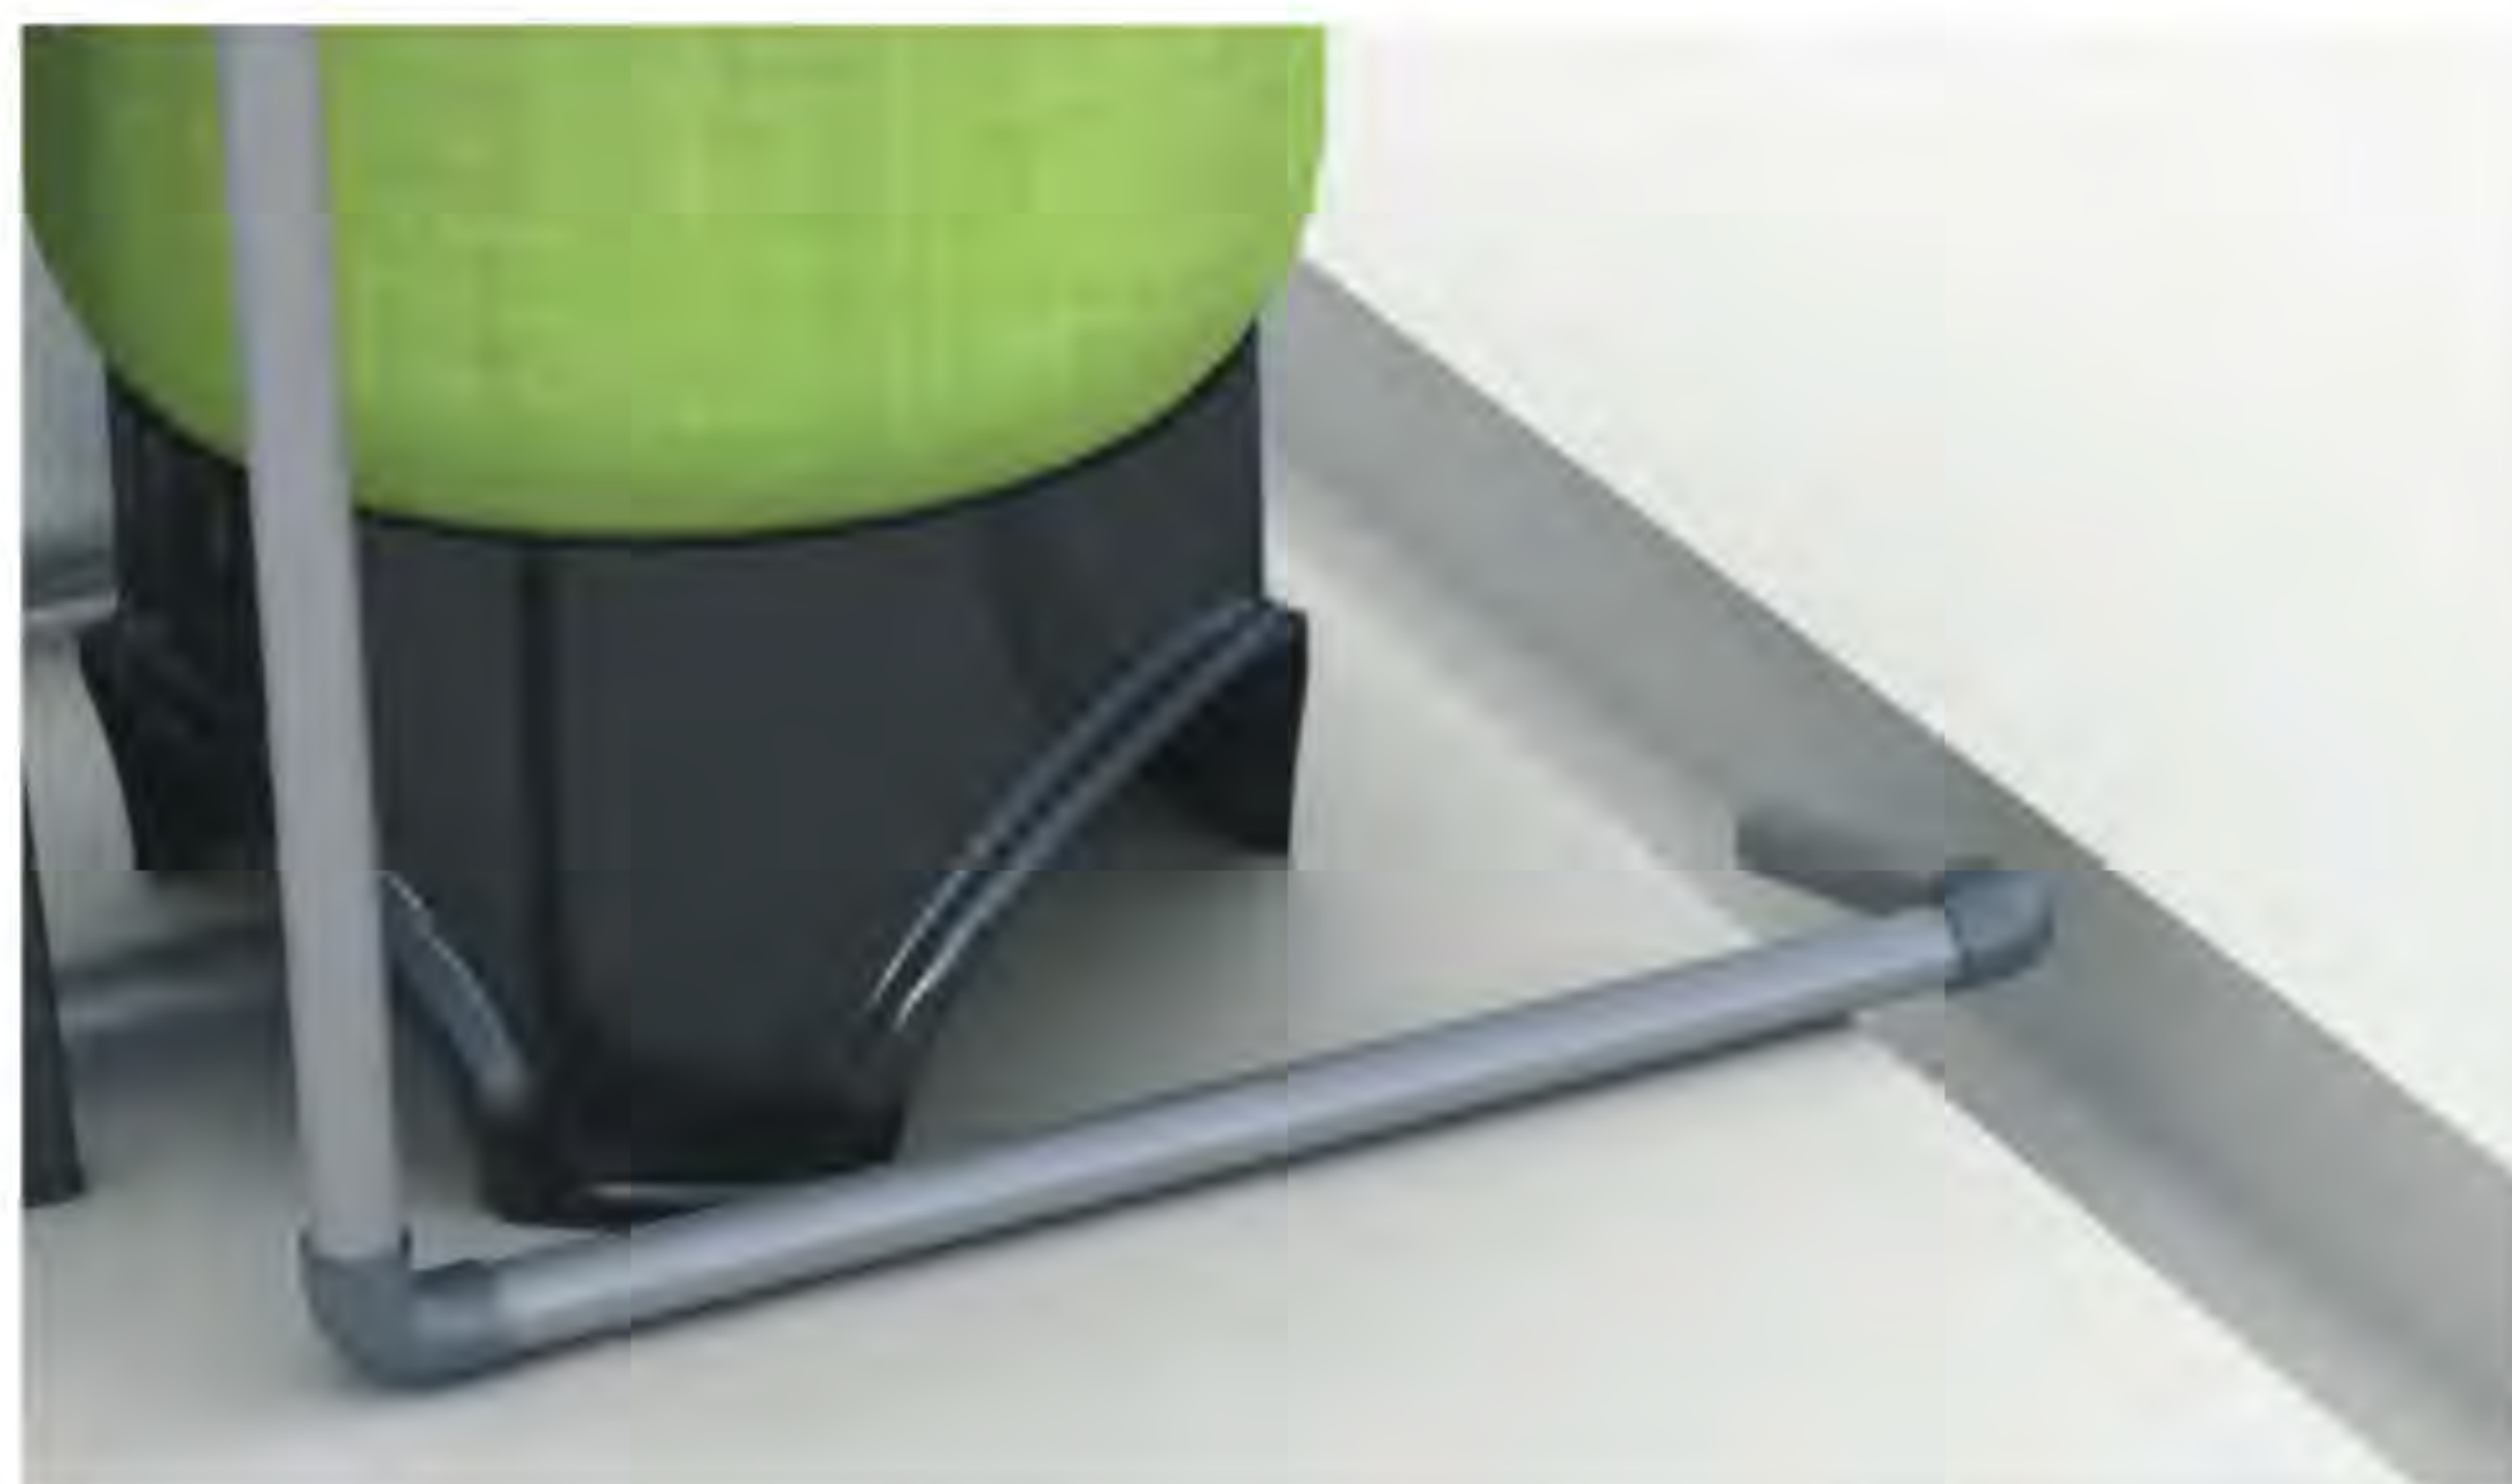

Figure 1-5
- e. Use DN65 (Outer diameter is $\phi 75$) UPVC pipeline stick to the drain, drain pipeline should directly to the sewer, the sewer and the drain pipeline should installed as Figure 1-5.